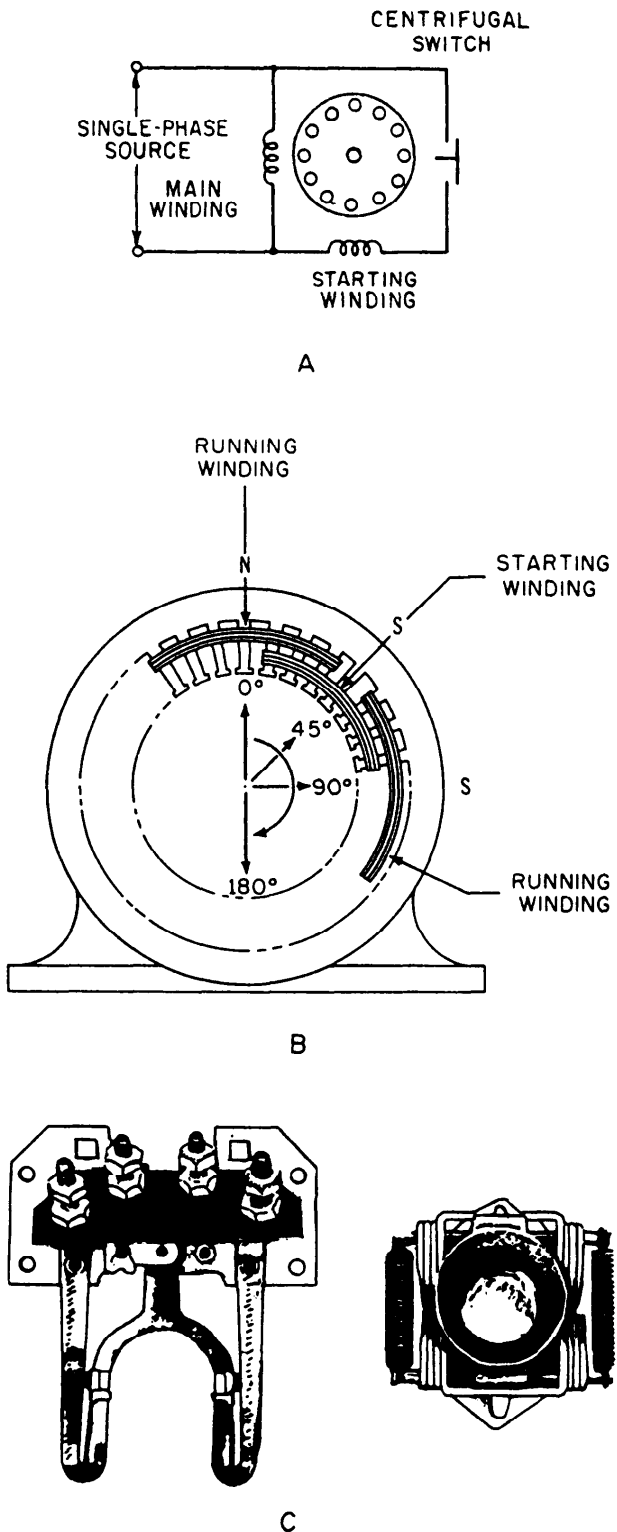

Figure 9-4.— Split-phase motor. A. Circuit diagram. B. Winding configuration. C. Centrifugal switch.
**SPLIT-PHASE MOTOR.**—The split-phase motor (fig. 9-4) has a stator composed of slotted laminations. The stator has an auxiliary (starting) winding and a running (main) winding (fig. 9-4, view A). The axes of these two windings are displaced by an angle of 90 electrical degrees. The starting winding has fewer turns and smaller wire than the running winding; hence, the starting winding has higher resistance and less reactance. The main winding occupies the lower half of the slots. The starting winding occupies the upper half (fig. 9-4, view B). The two windings are connected in parallel across the single-phase line that supplies the motor. The motor gets its name from the action of the stator during the starting period.
When the rotor reaches about 75 percent of synchronous speed, a centrifugally operated switch (fig. 9-4, view C) disconnects the starting winding from the line supply. The motor continues to run on the main winding alone. Then the rotating field is maintained by the interaction of the rotor and stator electromagnetic forces.